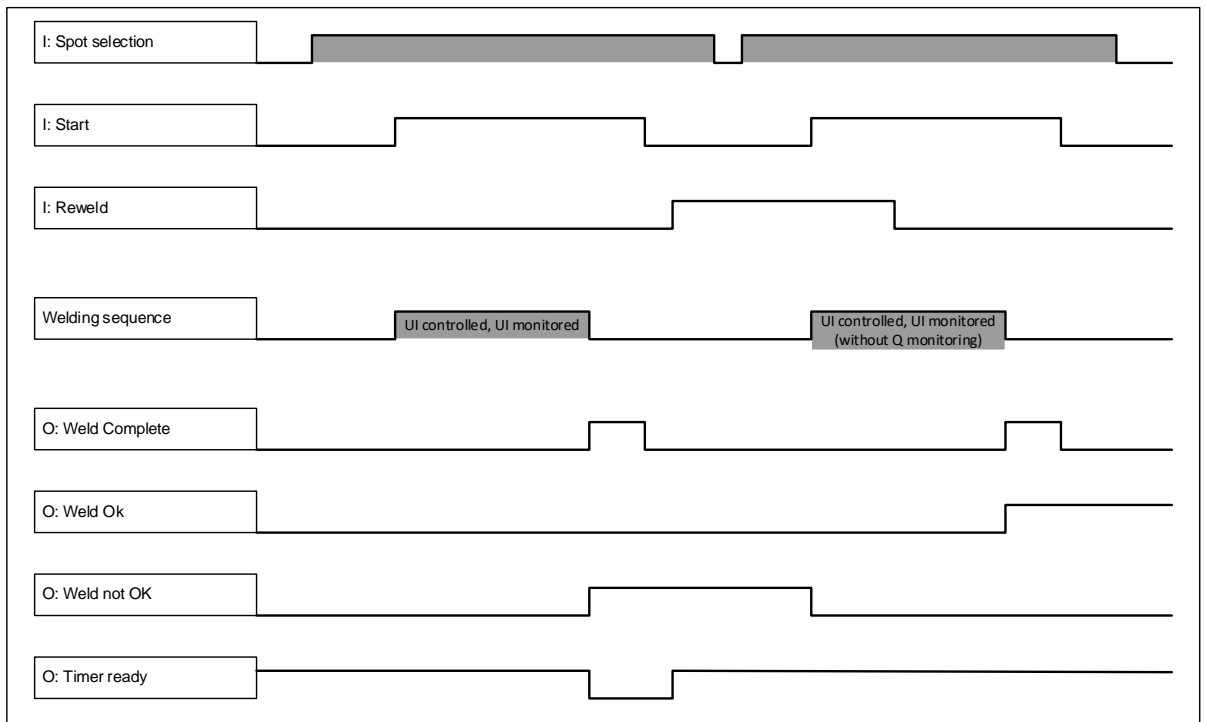

Fig. 7: Reweld after new edge of start signal
- Reweld after new edge of start signal (refer to Timer diagram fig. 7):